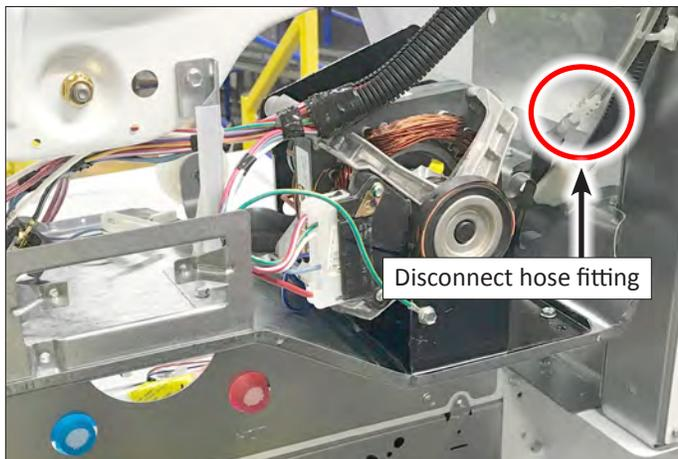

Figure 3
7. Locate the pressure hose disconnect inside the cabinet, to the right of the motor (see Figure 3). Disconnect hose fitting and pull hose down through opening in dryer base.
5. Reconnect the pressure hose. See Figures 3, page 5-15.